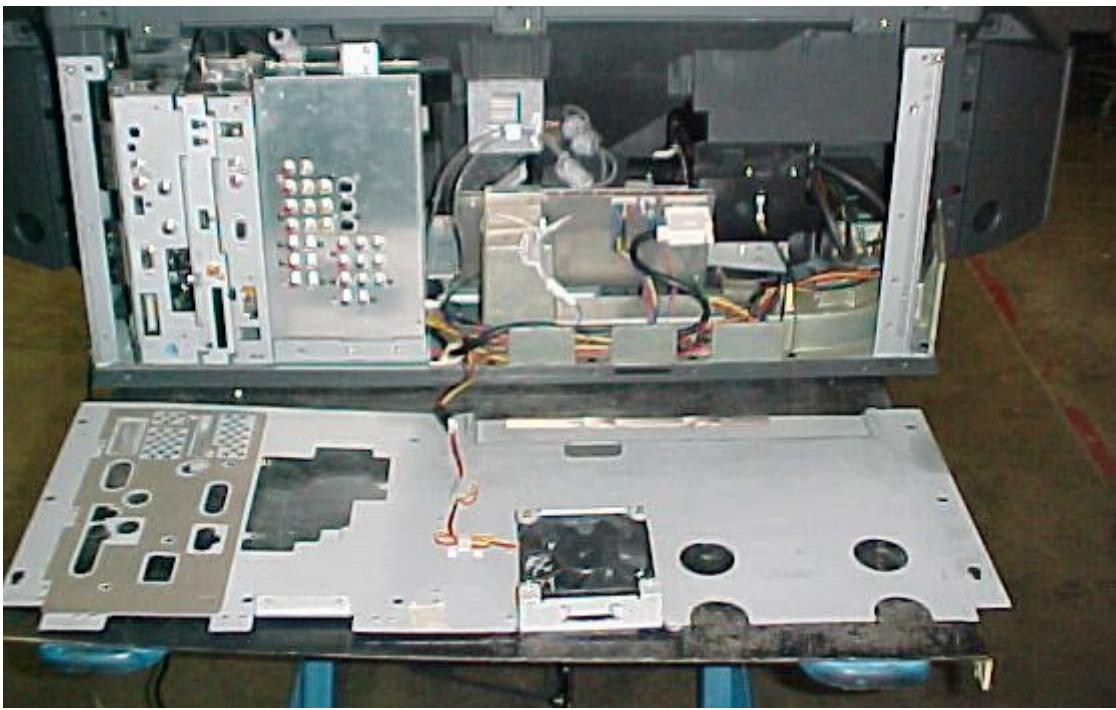

Figure 2-6: Rear Plate Removed
- 3) Lay the Rear Plate on the floor behind the set, *Figure 2-6*.